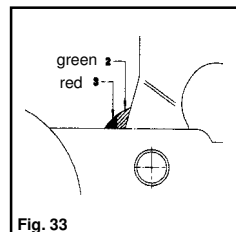

Fig. 33
- If a green indicator is visible (on the handle), then the AKS 2004 is in a new condition or the pads and towball are within the permissible limits (Fig. 33/Item 2).